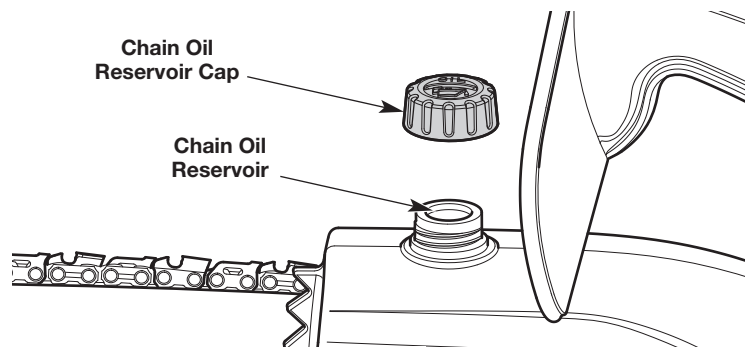

Fig. 26
3. Unscrew the chain oil reservoir cap (Fig. 26).